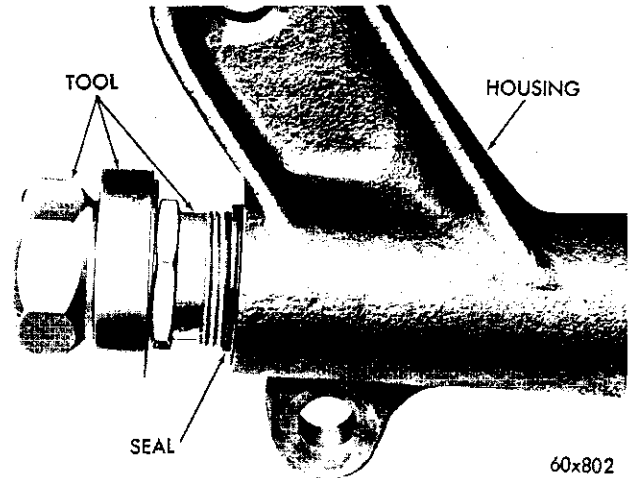
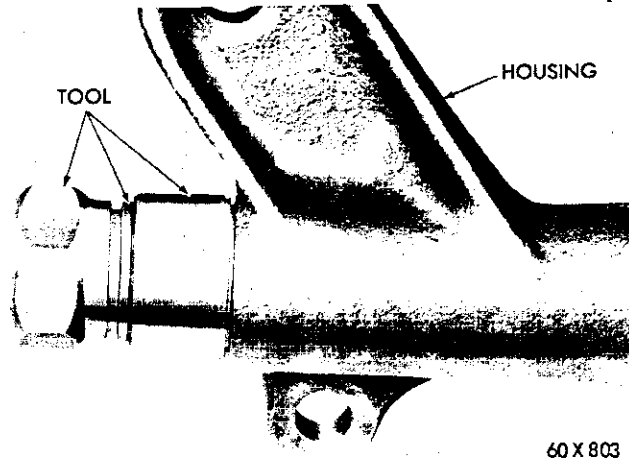

Fig. 10—Removing the Gear Shaft Oil Seal
Fig. 11—Installing the Gear Shaft Oil Seal
a. Removal (Fig. 10)
(1) Remove the gear shaft oil seal with Tool C-3350 gear shaft oil seal removing and installing tool set as follows:
(2) Slide the threaded portion of the adapter SP-3056 over the end of the gear shaft and install the threaded nut section of the tool on the gear shaft.
(3) Maintain the pressure on the adapter SP-3056 with the nut of tool, while turning the adapter SP-3056, forcing it into the seal until it engages the metal lip of the seal.
(4) Slide the retainer of Tool C-3350 over the adapter, engage the grooves in the adapter and the tool nut with the two half-rings of the tool set and slide the retainer down to hold the half-rings in position.
(5) Turning the puller nut counter-clockwise will pull the oil seal from the housing.
b. Installation (Fig. 11)
(1) Place the seal on the seal protector sleeve, Tool SP-1601 and install the sleeve over the splines on the gear shaft (lip of seal toward housing).
(2) Place the adapter, Tool SP-1934, over the pro-